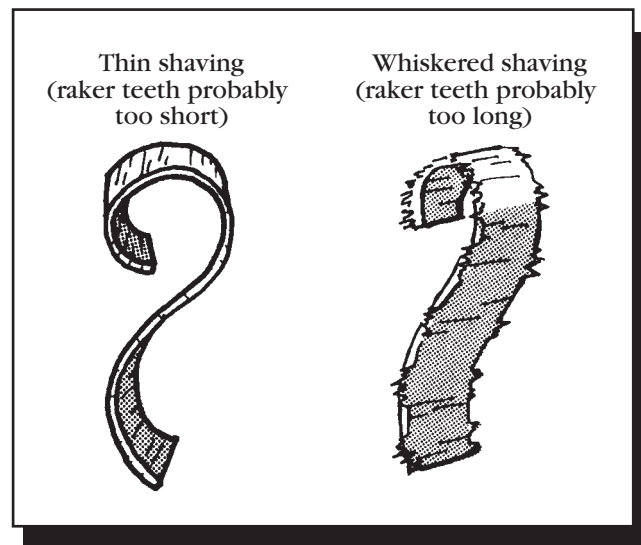

Figure 5-9—Examine shavings to identify sharpening problems.
**Testing the Saw**—Testing determines whether a saw cuts straight, runs smooth, and produces long, thick shavings. The saw should produce shavings and not sawdust. The longer and more abundant the shavings, the better the saw is performing. Green logs produce longer shavings than dry logs. The shavings should be long and thick with smooth edges. If the edges of the shavings have whiskers or irregularities, the rakers are probably too long. If the shavings are paper thin, the rakers are too short (figure 5-9).